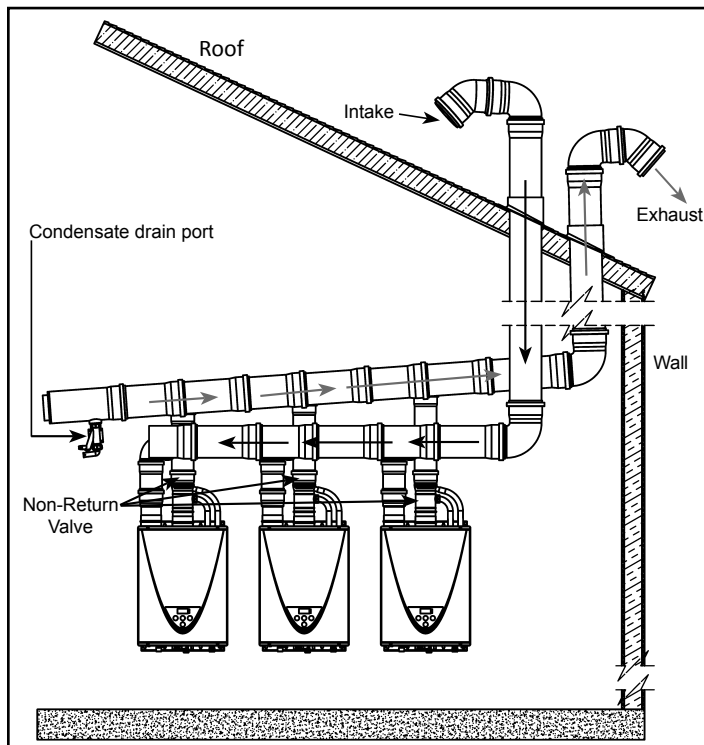
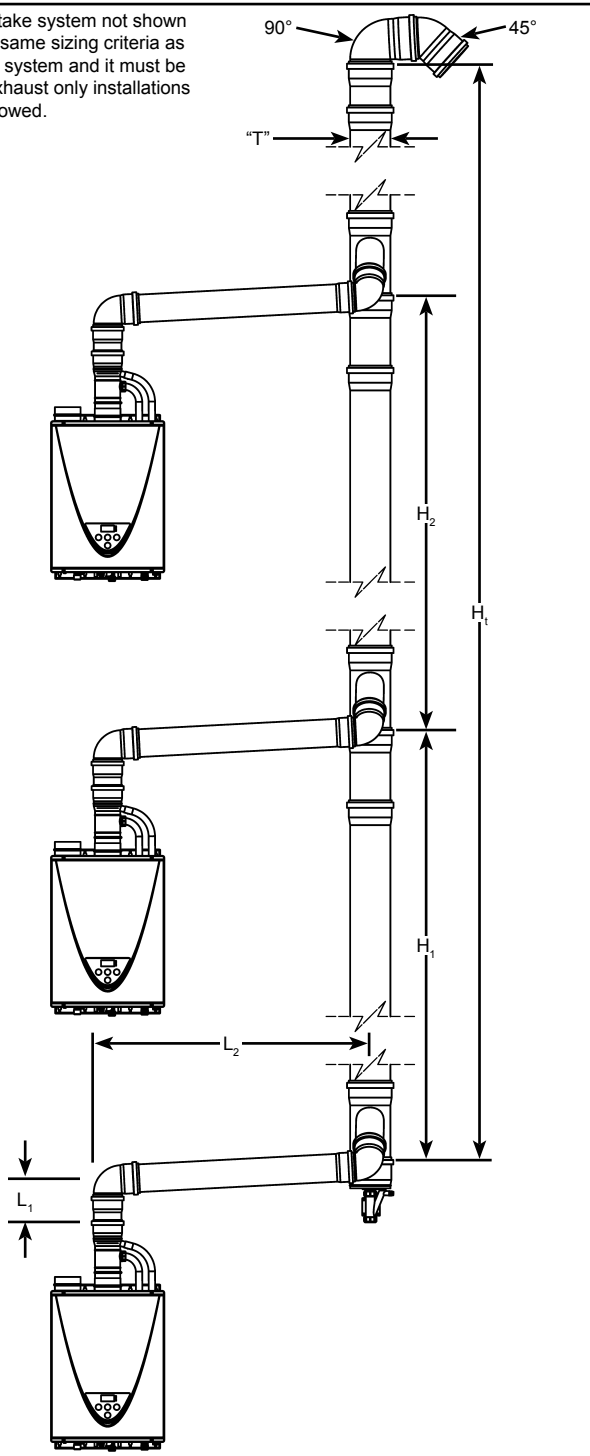

Figure 4. Typical Common-Vent Through The Roof Installation
Figure 11. Vent Dimensioning
6. The terminations for the roof and air intake lines shall consist of one 90° elbow and one 45° elbow as shown in Figure 4 through Figure 11. The terminations may use two 90° elbows. Install screens with minimum 3/4 in. (19mm) mesh spacing in each termination to prevent foreign material from entering the vent system.
Restrictions for vertical common venting (intake and exhaust) are as follows (see Figure 11):